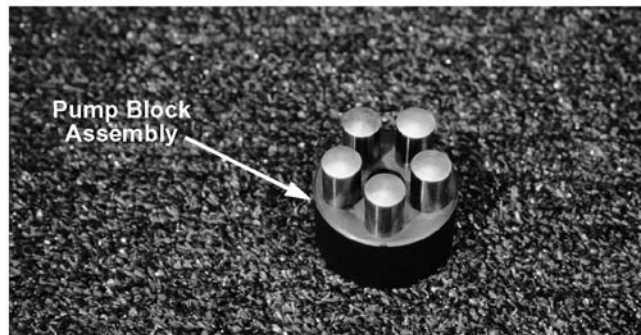

Figure 6-149
27. Shown is the pump block assembly. See Figure 6-149.